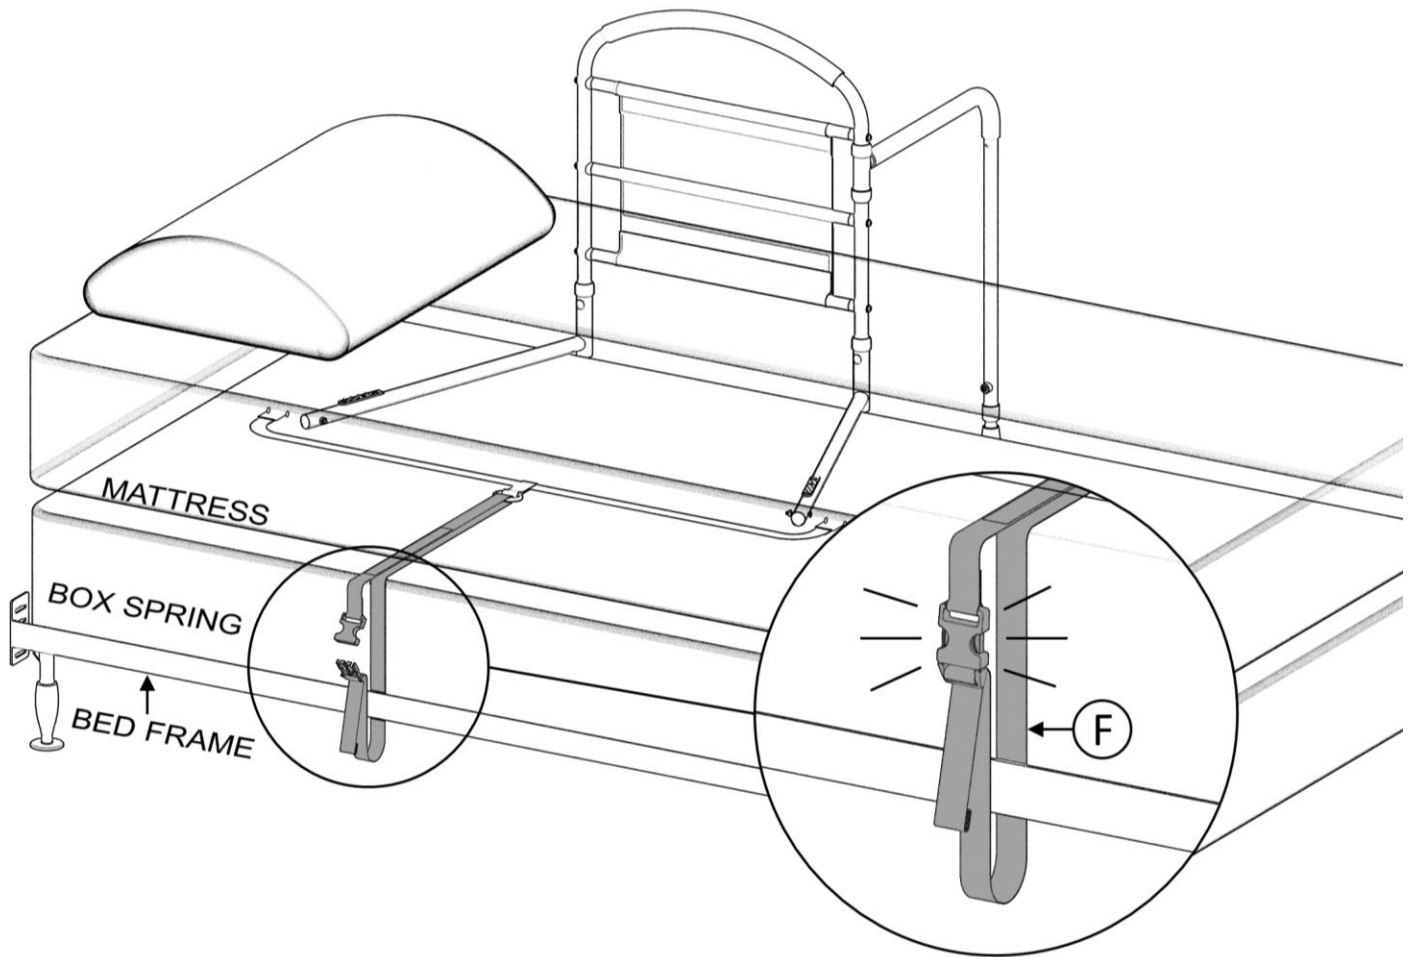

FIGURE 5
5. Loop SAFETY STRAP (F) around bed frame, re-buckle and tighten SAFETY STRAP to secure Bedrail product against side of the mattress as shown in *FIGURE 5*.